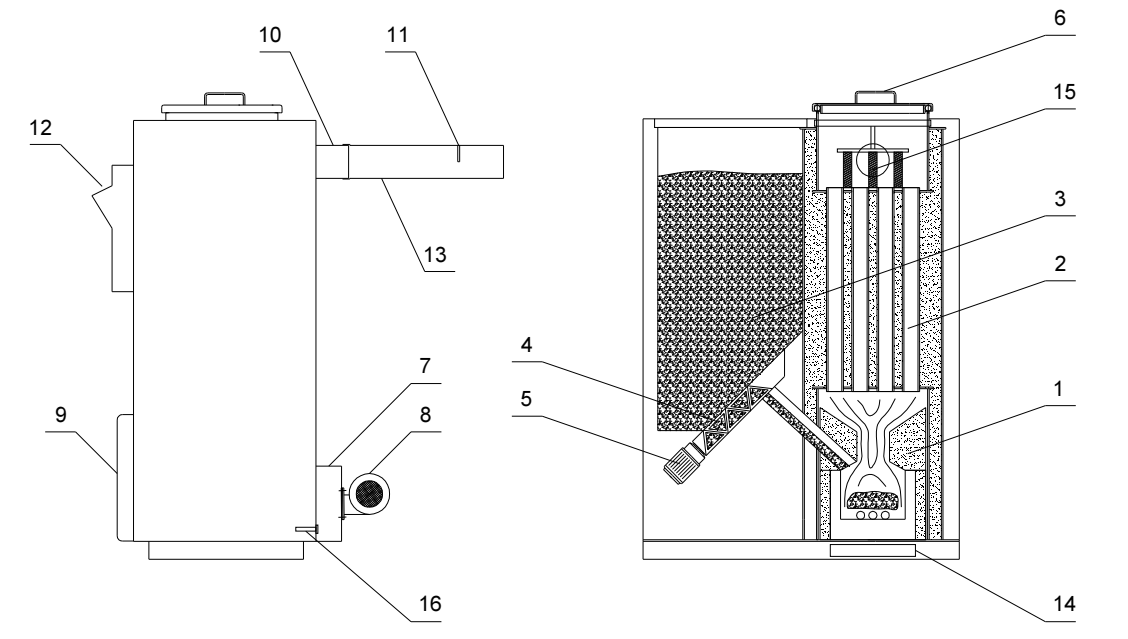

Figure 1. Parts of boiler
From pellet reservoir **Fig.1 pos.3** a screw conveyor **Fig.1 pos.4** inserts pellet in the firebox **Fig.1 pos. 1**. Electric heater, which is located in the firebox **Fig.1 pos.16** is used to fire pellets. This occurs only in the initial stage of commissioning of the boiler and after a long break.
A fan **Fig.1 pos.8** supports burning pellets in a way that takes required amount of oxygen for combustion into firebox.